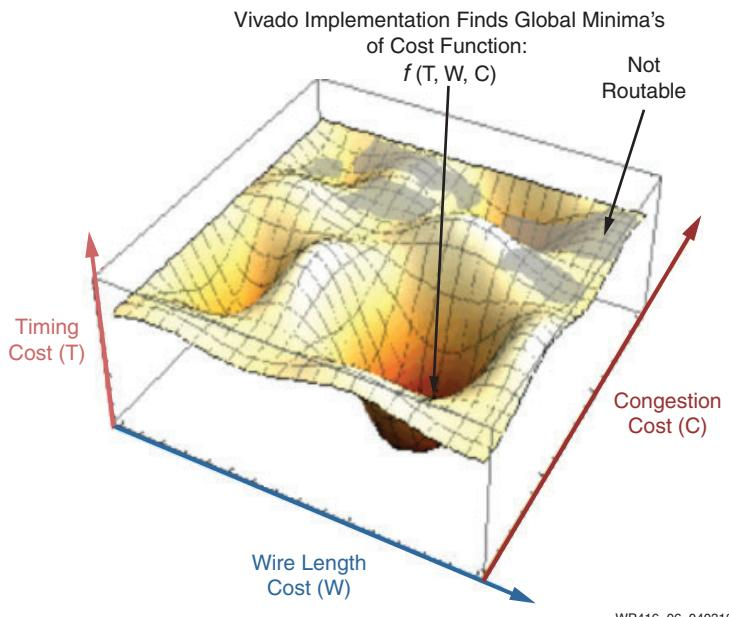

Figure 6: Vivado Design Suite Analytic Place and Route
Vivado Design Suite models the placement solution space into a large mathematical equation and uses an analytical solver to find a solution that minimizes a given cost function. An optimal placement solution depends on multiple dimensions, such as timing (T), wire length (W), and congestion metrics (C). Vivado Design Suite uses a multi-variable cost function to find the optimal placement, allowing the designer to quickly find a routable solution that maximizes performance while minimizing wire length, and therefore, dynamic power. This is illustrated in Figure 6.